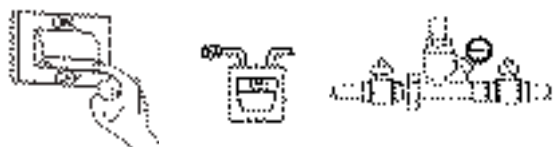

fig. 10
- Set the system's main switch to "off" (fig. 10).
- perform the analysis of the combustion products to check the boiler operation status then cut the electrical supply by turning off the system's general switch (fig. 10);